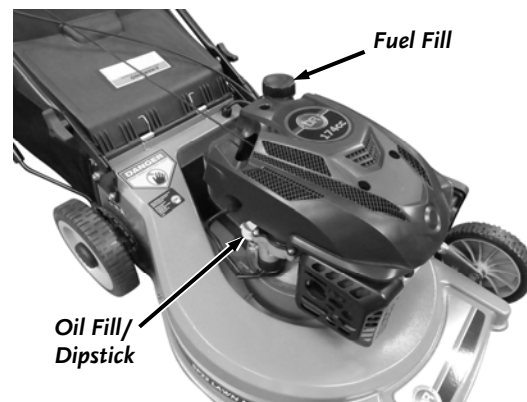

Figure 20
1. Remove the Oil/Fill Dipstick, wipe it clean, and insert it back into the Oil Fill making sure it is all the way on (**Figure 20**).